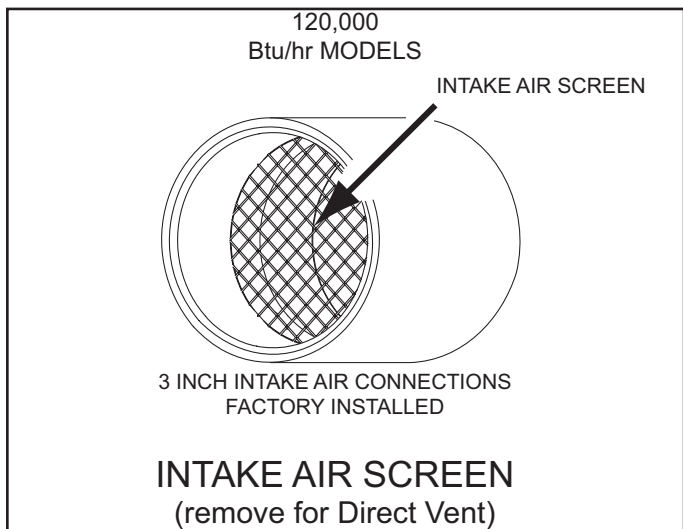

Figure 15
13. Ensure the Intake Air Screen on the Intake Air Connection to the water heater is removed before connecting the intake air pipe to the water heater. See Figure 15.